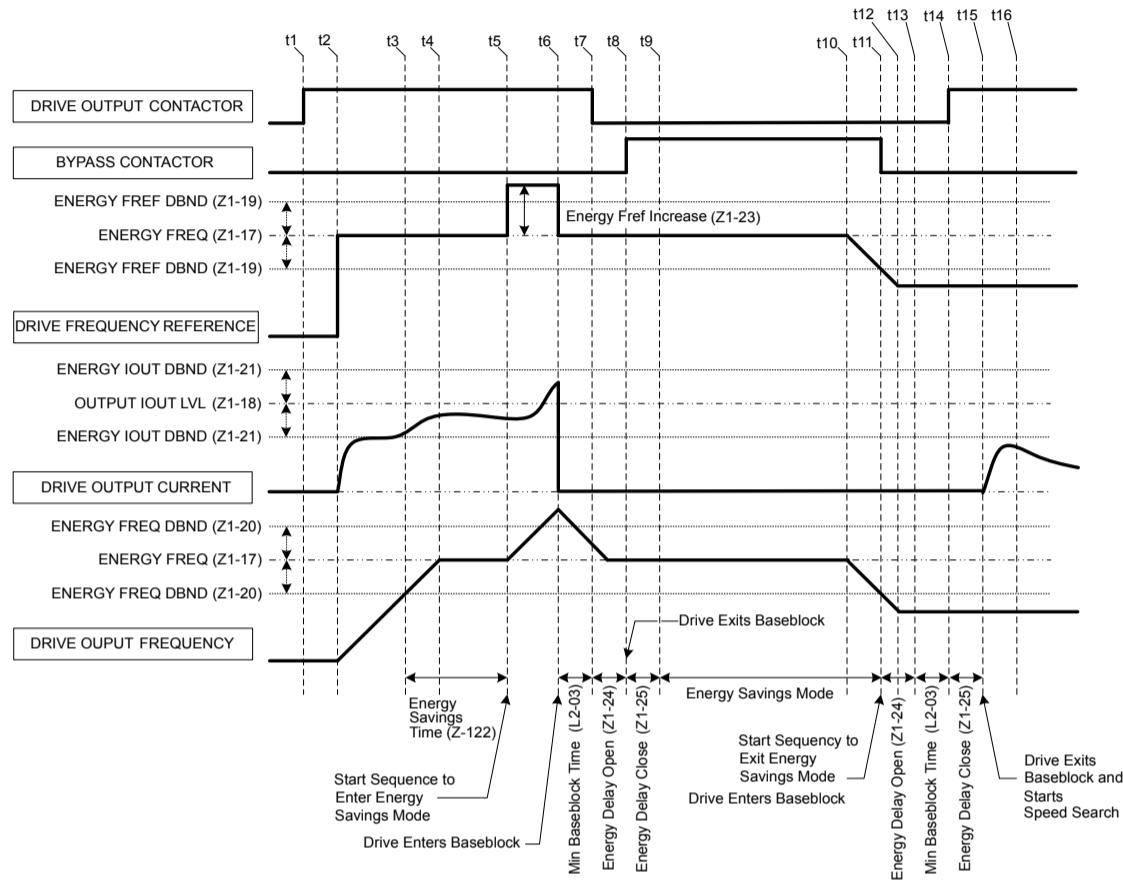

Figure 5.61 Drive Bypass Energy Savings Mode Sequence Example
7. Then the drive catches a spinning motor via Speed Search and follows frequency reference to take control. Refer to **Figure 5.61** for an example of the sequence that is followed when entering and exiting the Energy Savings Mode.